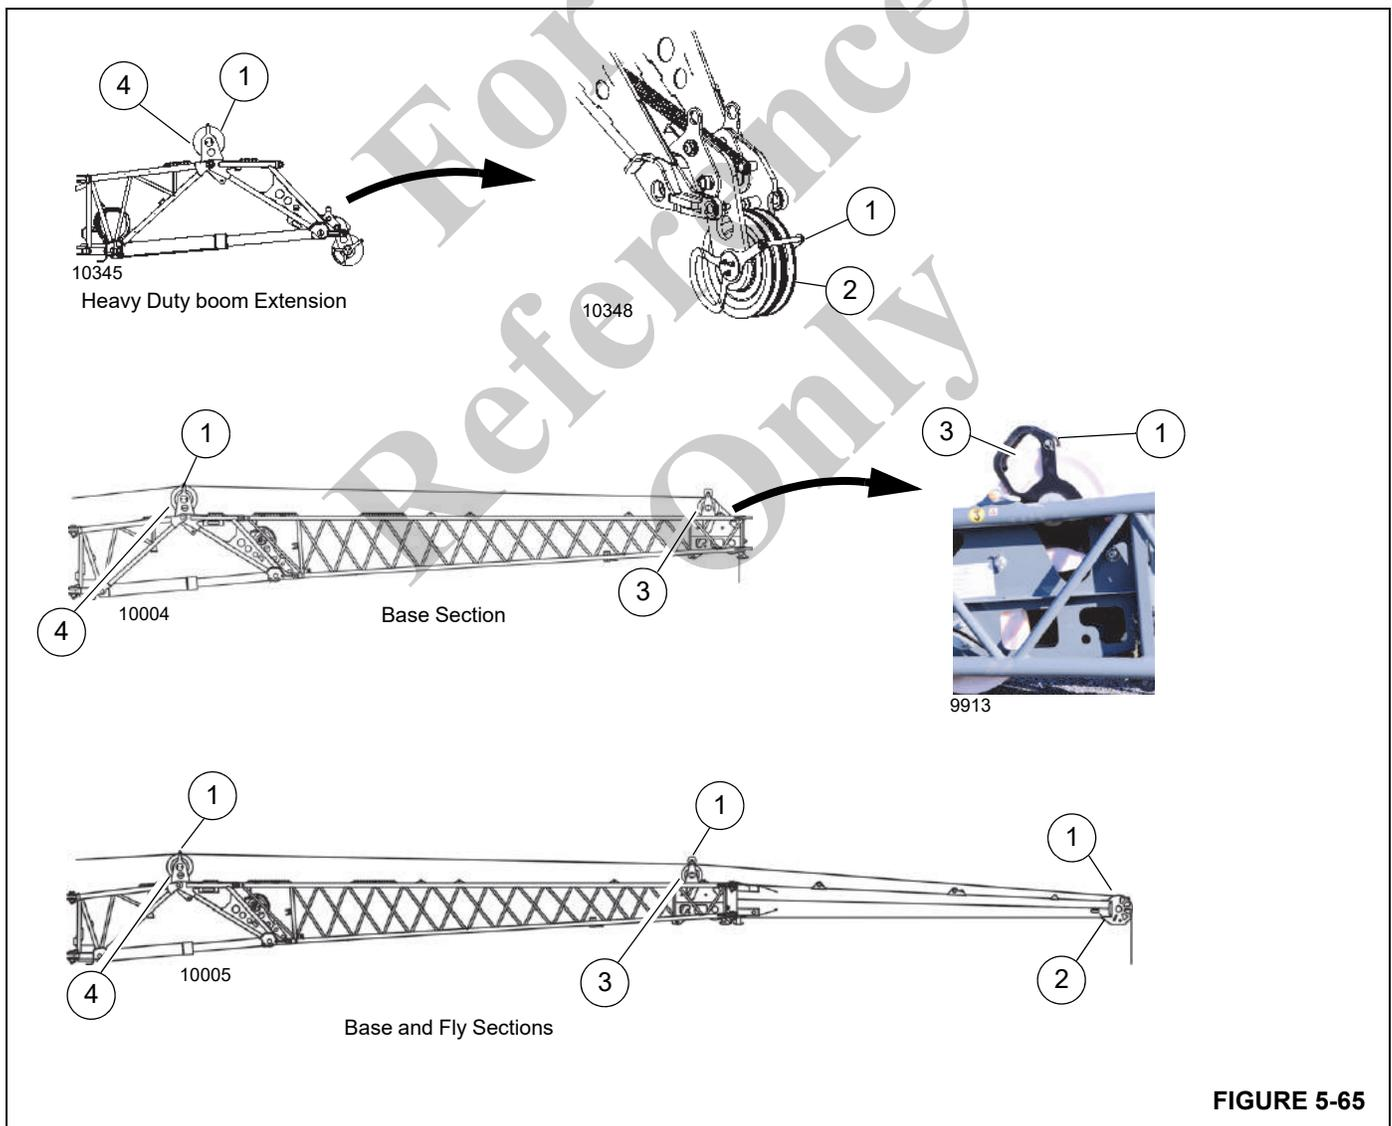

FIGURE 5-65
1. Remove the retaining pin and roller (1, Figure 5-65).
2. Guide the rope over the mast sheaves (4), (3) and over the nose sheave (2) of the extension.
3. Reinstall all the retaining pin and roller (1) and secure with retaining clips.
2. Remove the retaining pin and roller (1, Figure 5-65).
3. Take the hoist rope off the head sheave (2) and mast sheaves (4), (3) and place it on the ground on the left side.